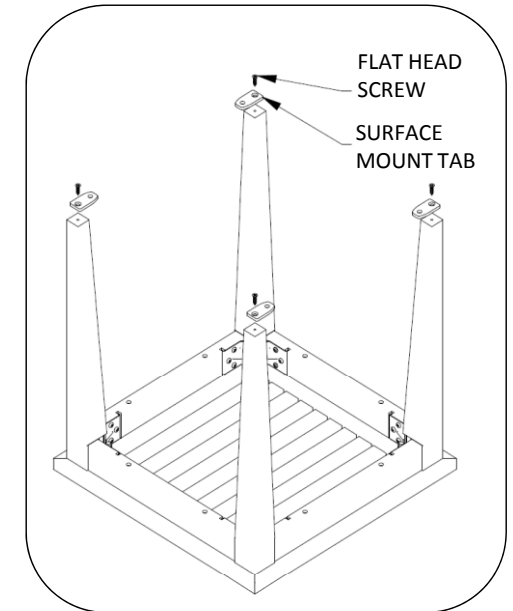

Fig. 4 – Install surface mount tabs - optional
3. Install surface mount tabs as shown in Fig. 4.